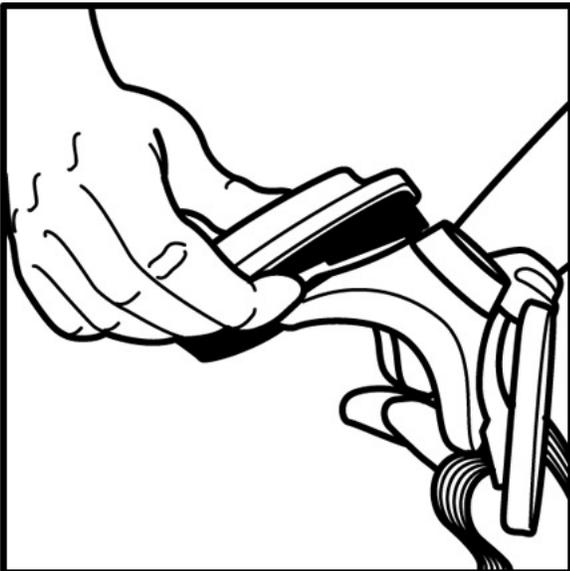

Fig. 3
3. To replace the 5P71 (07194) filter, remove the 501 (07054) filter retainer by lifting on the tab as shown. (Fig. 3)